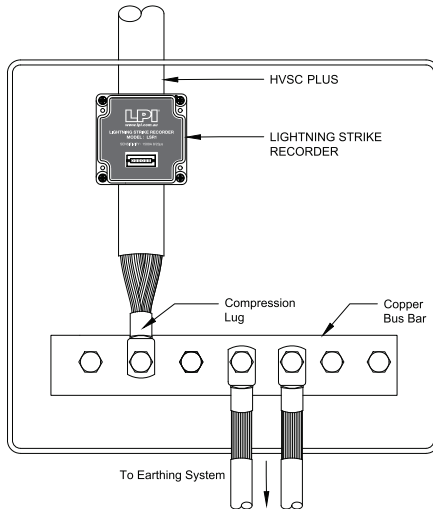

Figure 16.
6. If terminating the lower end of the HVSC Plus to a bus bar, connect to the bus bar as per Figure 16.